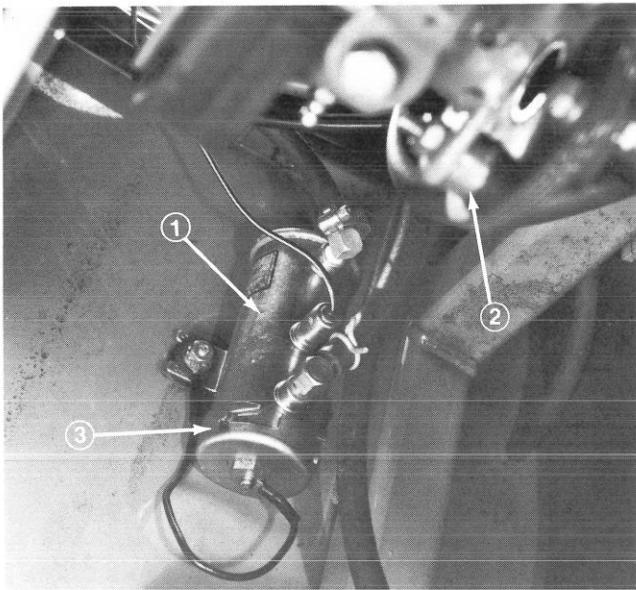
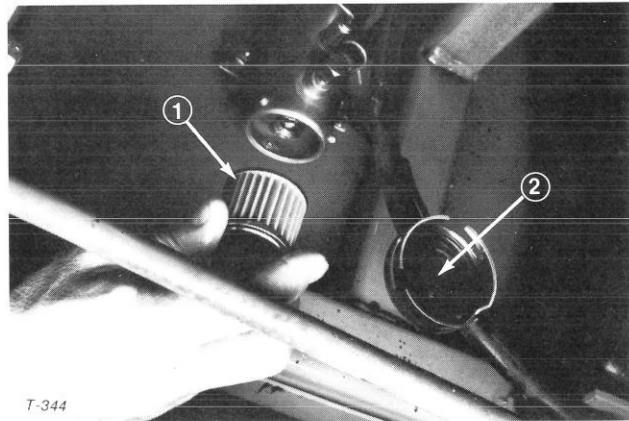

Figure 49
Figure 50
1. Fuel pump is located on inner frame bulkhead to left of drive coupling assembly (Fig. 49).
3. Place a drain pan under fuel pump and remove cover from fuel pump with 17 mm wrench (Fig. 49). Take care not to damage wire while removing cover.
4. Pull filter out of pump body (Fig. 50).
6. Clean magnet of any residue (Fig. 50), insert filter into body and install cover (Fig. 49).